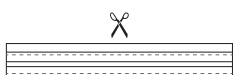

Fig. 1. Cutting product is allowed anywhere. (Fig. 1).
- Cutting product is allowed only in marked places (Fig. 1).